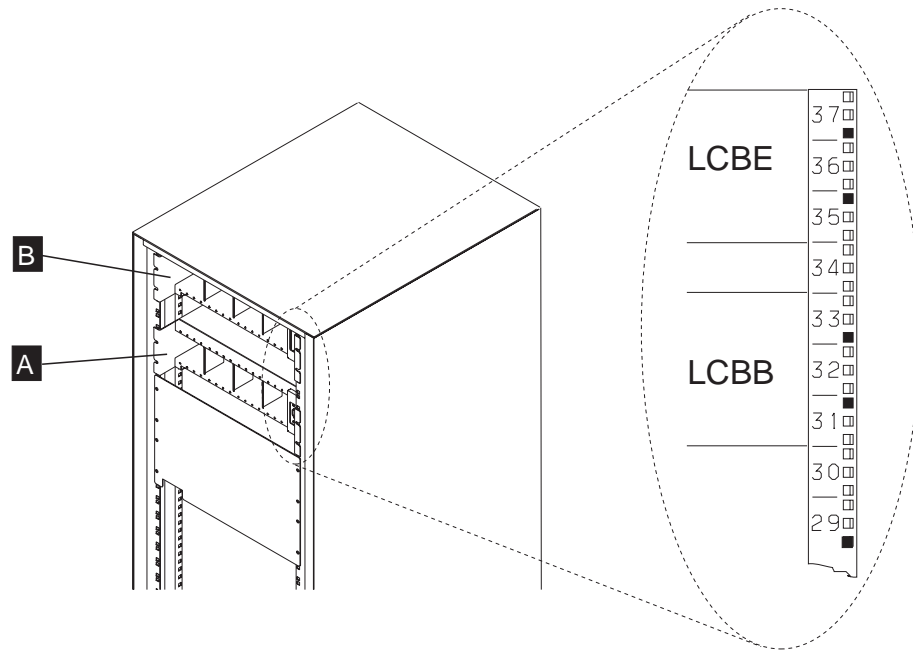

Figure 11-2. LCBs Installation in 37 U Rack
- Refer to Figure 11-2 on page 11-13 for LCBs installed in a 37 U rack.